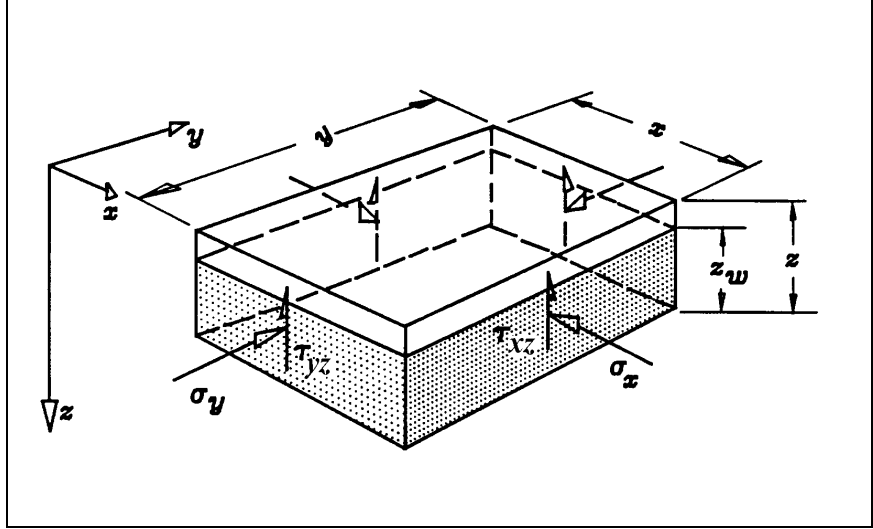

Figure 3.5: Relationship between stress directions and pillar dimensions.
Note that the 'long' and 'short' lateral dimensions can be **either** the x or the y dimension. Make sure the corresponding lateral stresses (see next section) are consistent with the chosen x and y directions (see Figure 3.5).
Figure 3.5 illustrates the relations between the lateral and shear stress directions, and the pillar dimensions.
*Note: the user should check that the input here corresponds with the definitions of the **x** and **y** pillar dimensions. Check Figure 3.5.*
*Make sure the lateral stress directions correspond to the **x** and **y** pillar dimensions – see Figure 3.5*